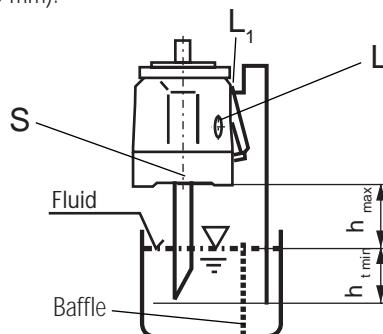

Fig. 2
- If the minimum fluid level is below the pump mounting face pipe port "L₁", and possibly "S" according to Fig. 2.
Before installing the pump, fill the pump with housing in the horizontal position. For mounting above reservoir see Fig. 2.